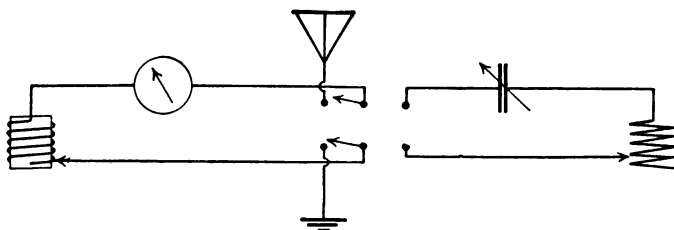

Fig. 4.—To Measure the Resistance of an Antenna, the Later is Replaced by a Dummy Circuit.
I. Measurement of antenna resistance. Fig. 4 shows a circuit used in measuring antenna resistance. The secondary of the oscillation transformer can be connected either to the antenna and ground or to a non-inductive resistance and a variable air-condenser.